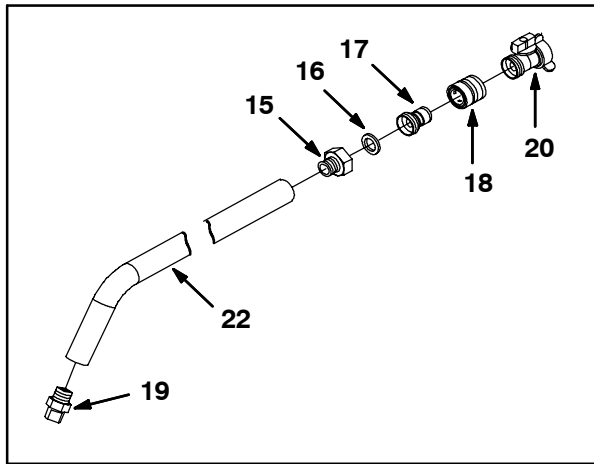

FIG. 4
17. Apply sealant onto the threads of the nozzle (19) and thread the nozzle into the wand (22). Refer to Fig. 4.
18. Apply sealant onto the threads of the straight brass fitting (15) and thread the fitting into the other end of the wand (22). Refer to Fig. 4.
19. Insert the rubber flat washer (16) into the straight brass fitting (15) installed in the previous step. Refer to Fig. 4.
20. Thread the hose nipple (17) into the spray nozzle coupling (18). Refer to Fig. 4.
21. Thread the hose nipple (17) / spray nozzle coupling (18) assembled in the previous step into the straight brass fitting (15). Refer to Fig. 4.
22. Thread the shutoff valve (20) into spray nozzle coupling (18). Refer to Fig. 4.